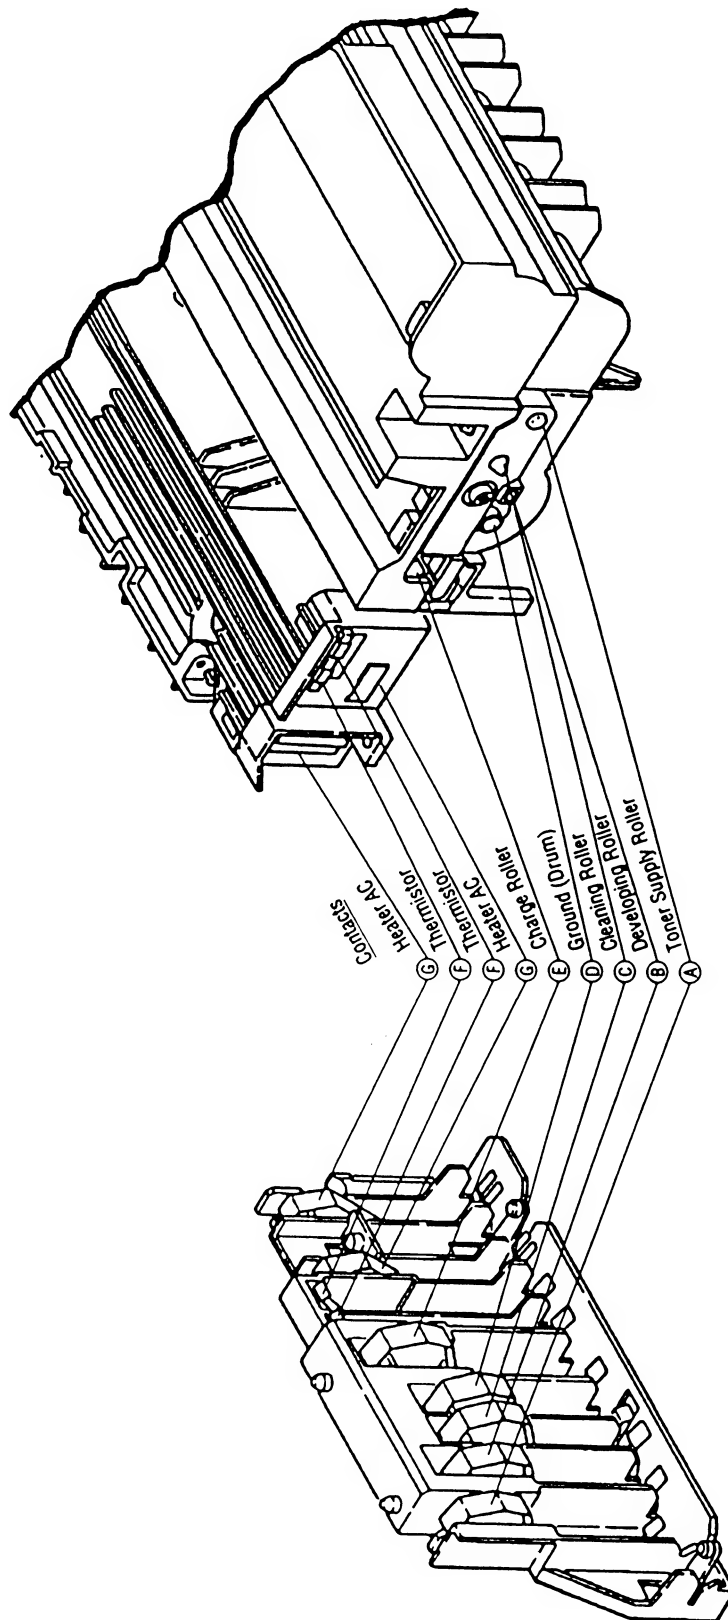

Figure 6-4
▼ Yes Is the contact of the fusing unit assy in proper contact with the contact assy (see Fig. 6-4 ㉔)?
• No Are the contacts of the toner supply roller, developing roller, image drum and charging roller in proper contact with the contact assy (see Fig. 6-4 (A), (B), (C), (D), (E))?